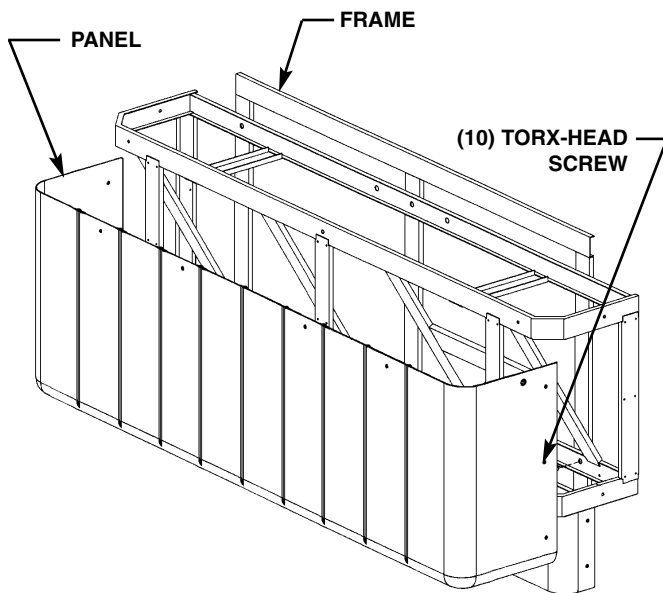

Figure 3
1. Remove the ten Torx-head screws securing the panel to the frame, and remove the panel (see Figure 3).